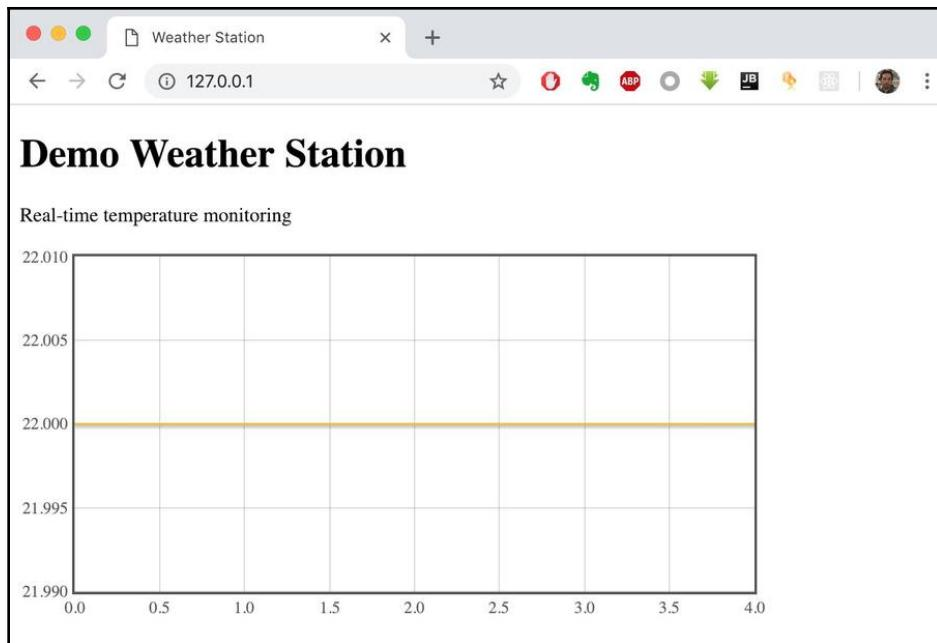

Figure 6.9: The program output of temperature data in a browser
4. Now open a browser and navigate to the IP address of the Node.js application. You should see the data visualization of the temperature data, as shown in *Figure 6.9*:
The browser receives temperature sensor information from the `weatherfeeder` server. *Figure 6.9* shows a graphical web interface where the *x* axis represents the data counter, and the *y* axis represents the temperature value. According to the figure, the temperature value equals 22 °C.